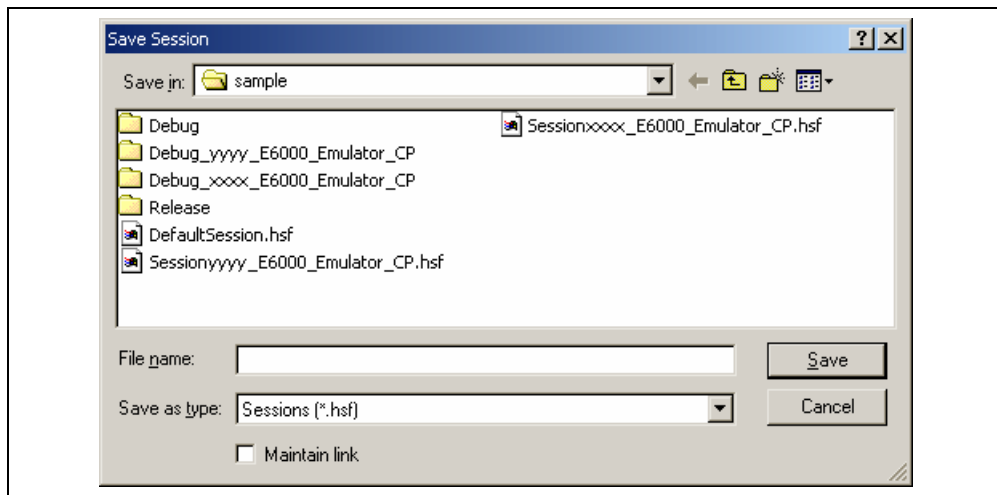

Figure 4.19 [Save Session] Dialog Box
3. Click the [Save as] button to display the [Save Session] dialog box (figure 4.19).